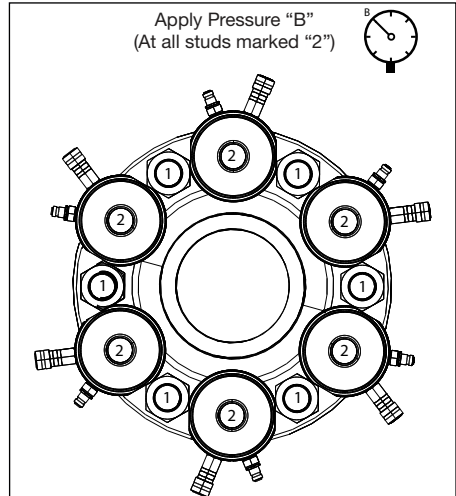

FIGURE 13, TENSIONER ARRANGEMENT, SECOND PASS - TYPICAL (50% TENSIONER COVERAGE)
14. Move the tensioners to the remaining 50% of the bolts (i.e. all bolts numbered “2”). See Figure 13.